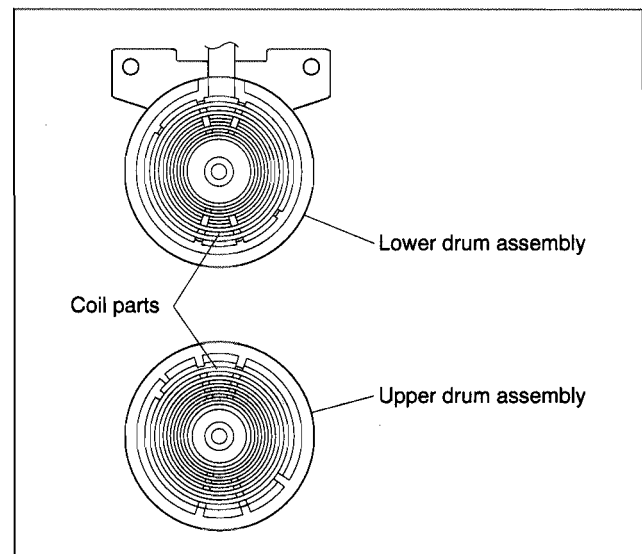

Fig. 2-2-45
- (1) Clean the coil parts of the lower drum assembly and the newly installed upper drum assembly with an air brush in advance. (See Fig.2-2-45.)